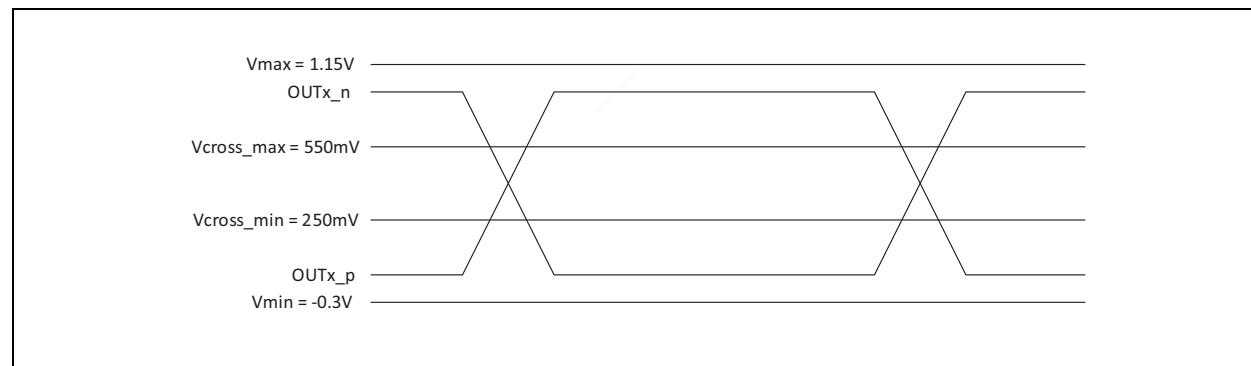

FIGURE 1-1: Single-Ended Measurement Points for Absolute Cross Point and Swing.
- 4:** Measured at crossing point where the instantaneous voltage value of the rising edge of $OUTx_p$ equals the falling edge of $OUTx_n$. See Figure 1-1.
- 5:** Refers to the total variation from the lowest crossing point to the highest, regardless of which edge is crossing. Refers to all crossing points for this measurement. See Figure 1-1.
- 6:** Defined as the maximum instantaneous voltage including overshoot. See Figure 1-1.
- 7:** Defined as the minimum instantaneous voltage including undershoot. See Figure 1-1.